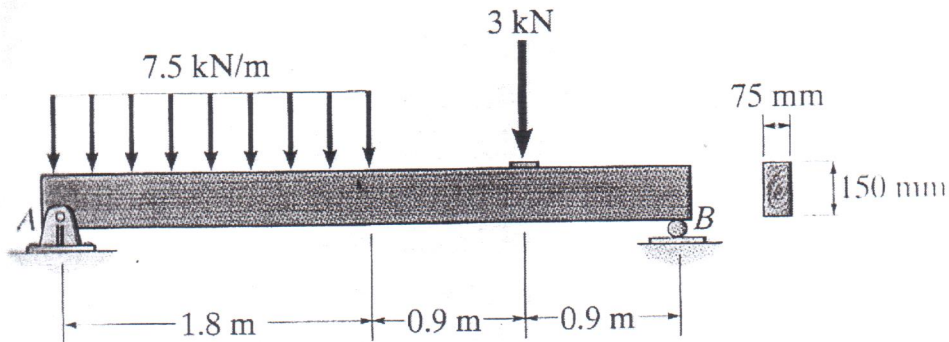

Figure 5.
- (5) Determine the equation of the elastic curve of the simply supported beam which is illustrated in **Figure 5** and then find the maximum deflection. The beam is made of wood having a modulus of elasticity $E = 10$ GPa.